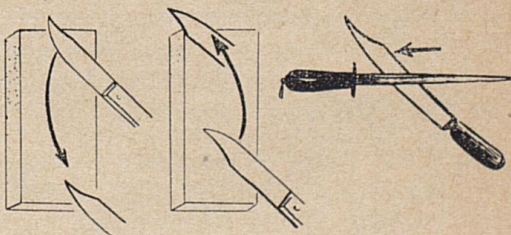

Fig. 57
1. Sharpen knives often. A tapered steel rod, oil stone, or grindstone can be used. See that the cutting edge always leads when sharpening. Fig. 57.